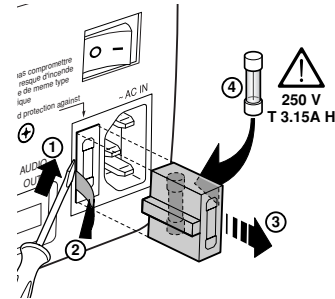

*Fig. 4*
- Only replace the safety fuse (on the power socket at the rear of projector) with a fuse identical in type and characteristics (T 3.15A H) (*Fig. 4*).